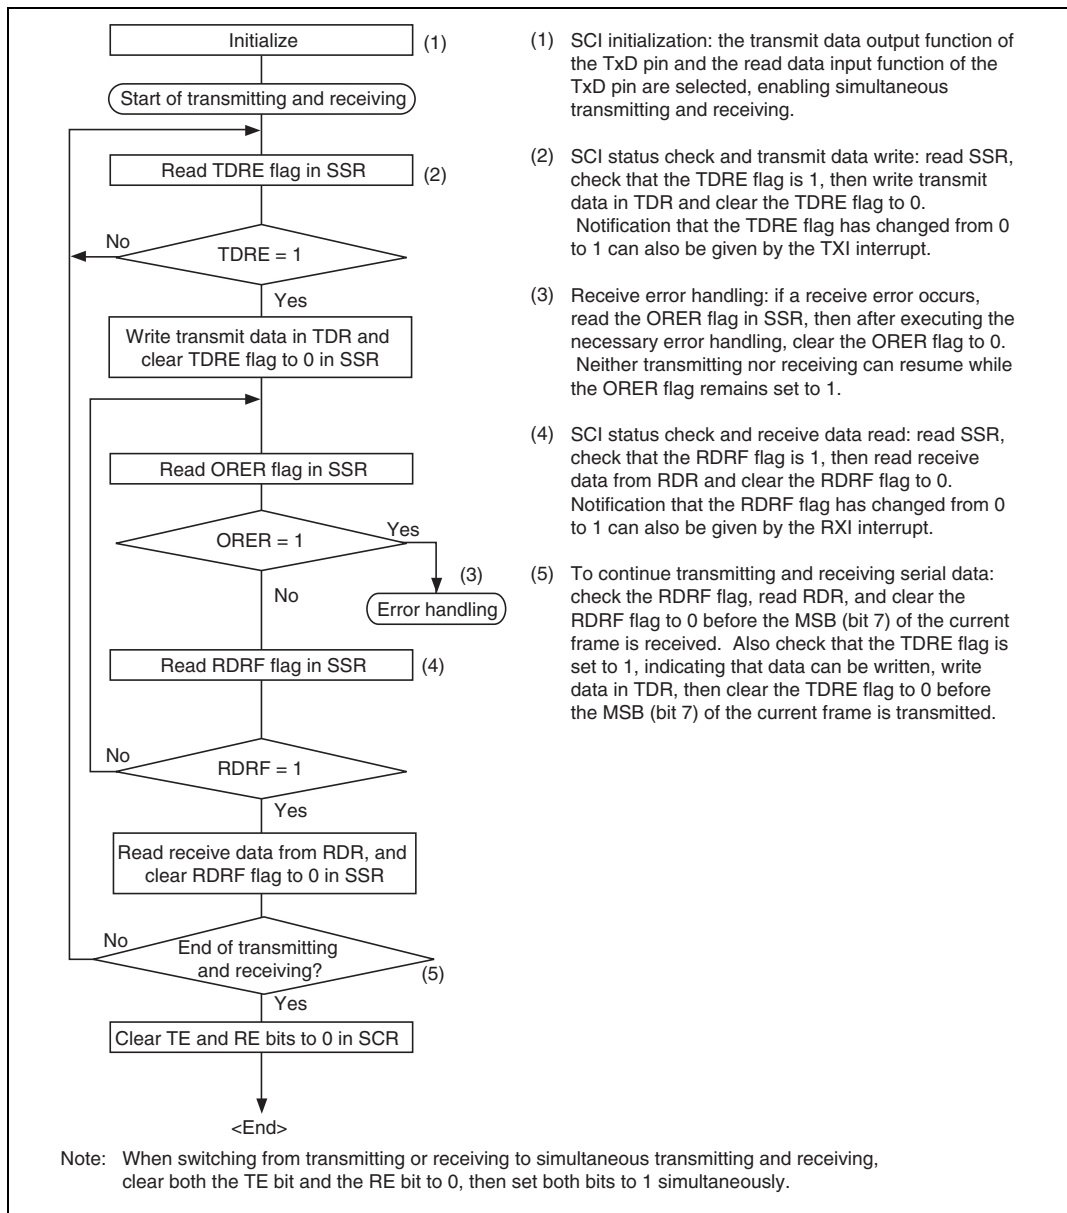

Figure 12.20 Sample Flowchart for Simultaneous Serial Transmitting and Receiving
- Transmitting and Receiving Data Simultaneously (Synchronous Mode): Figure 12.20 shows a sample flowchart for transmitting and receiving serial data simultaneously and indicates the procedure to follow.